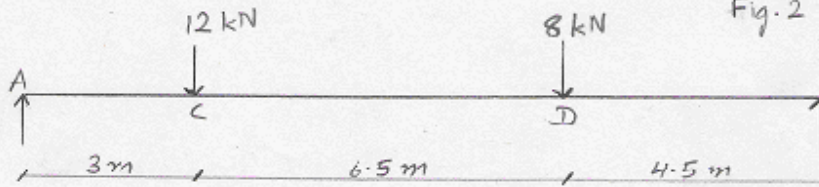

Fig. 3 (Q.1.B)
- (b) A horizontal steel girder having uniform cross-section is 14 m long and is simply supported at its ends. It carries two concentrated loads as shown in **Fig.3**. Calculate the deflections of the beam under the loads by Macaulay's method. Take  $E = 200\text{GPa}$  and  $I = 160 \times 10^6 \text{ mm}^4$ . **07**